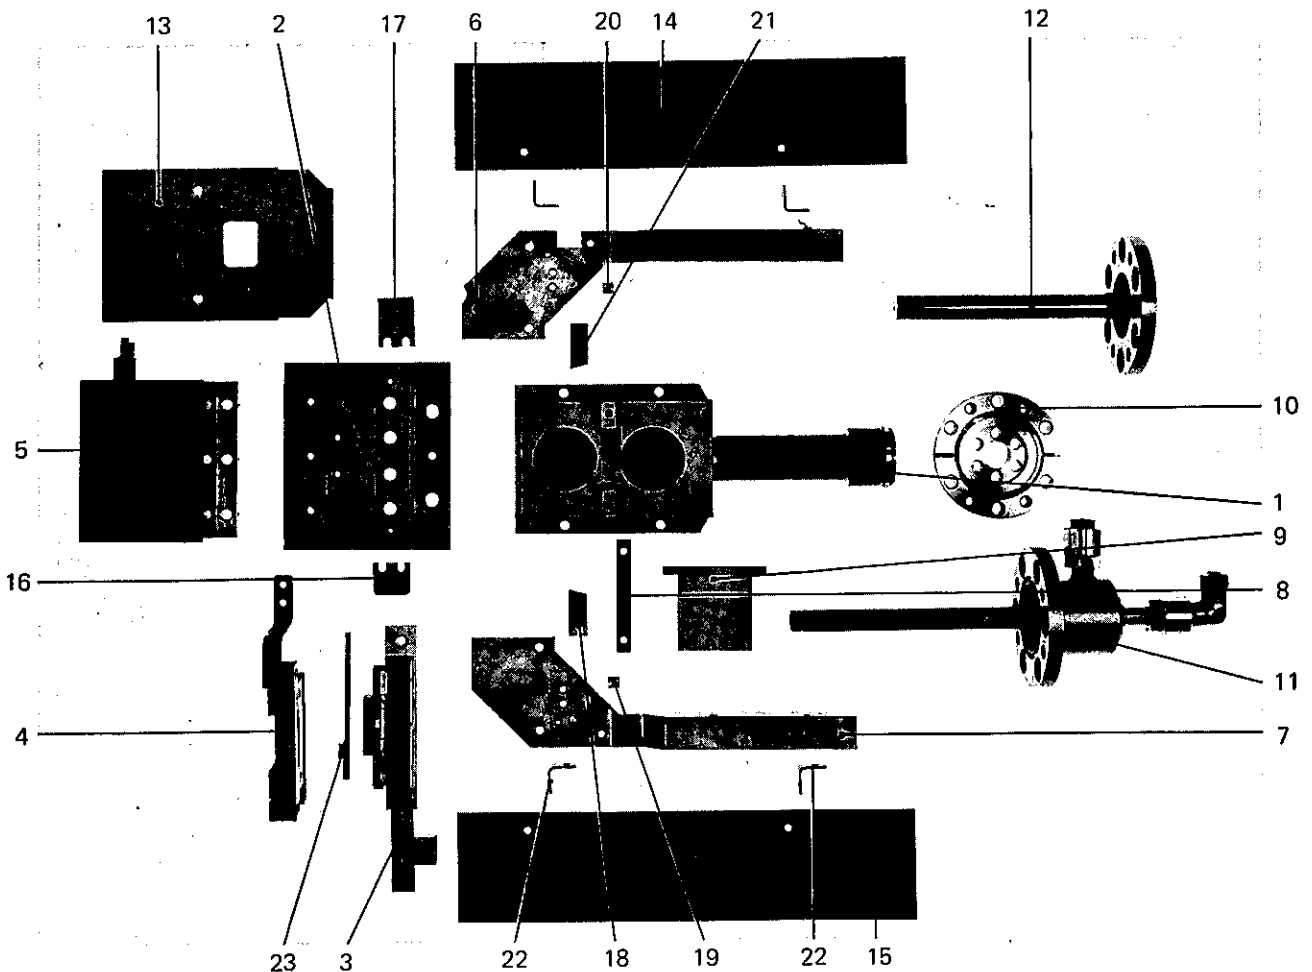
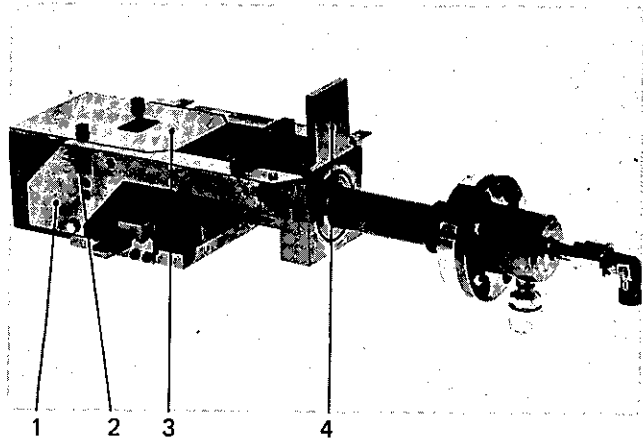

Fig. 4 Components of the ESQ 300 U
Fig. 7
- f. Fit the Cu-screen (Fig. 7, item 3) over the cathode block and anode
- h. Screw the deflecting plate (Fig. 7, item 4) for secondary ions to the crucible block.
- b. Fix the coil (Fig. 7, item 1) with 3 socket head screws M5 · 20 mm.
- c. Attach the pole shoes (Fig. 7, item 1) with the auxiliary pole shoes (Fig. 4, items 18 – 21) at both sides.
- a. Screw the source flange NW 35 CF (Fig. 4, item 10) to the lead-in of the UHV plant (ensure the right position of the threaded holes for the crucible block (Fig. 4, item 1)).
After connecting the source with the high voltage lead-in, the coil and the anode current input, and after making the return lead according to the drawing, attach the two Cr/Ni screens (Fig. 3, item 5) with two fastening angles (Fig. 7, item 2) each to the source.